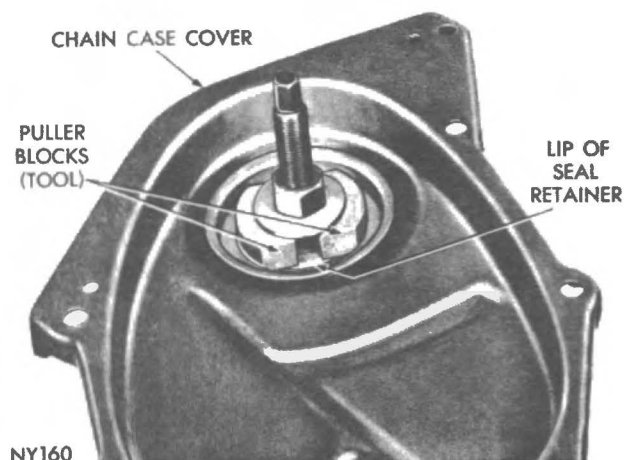

Fig. 21 - Puller blocks expanded to puller position (Tool CA-3506).
(1) Position puller screw of Tool CA-3506 through cover, the inside of cover up. Position the puller blocks directly opposite each other, and force the angular lip between neoprene and flange of the seal retainer.
(2) Place washer and nut on puller screw. Tighten the nut forcing blocks into gap to a point of distorting the seal retainer lip (Fig. 21). Puller is only positioned at this point.